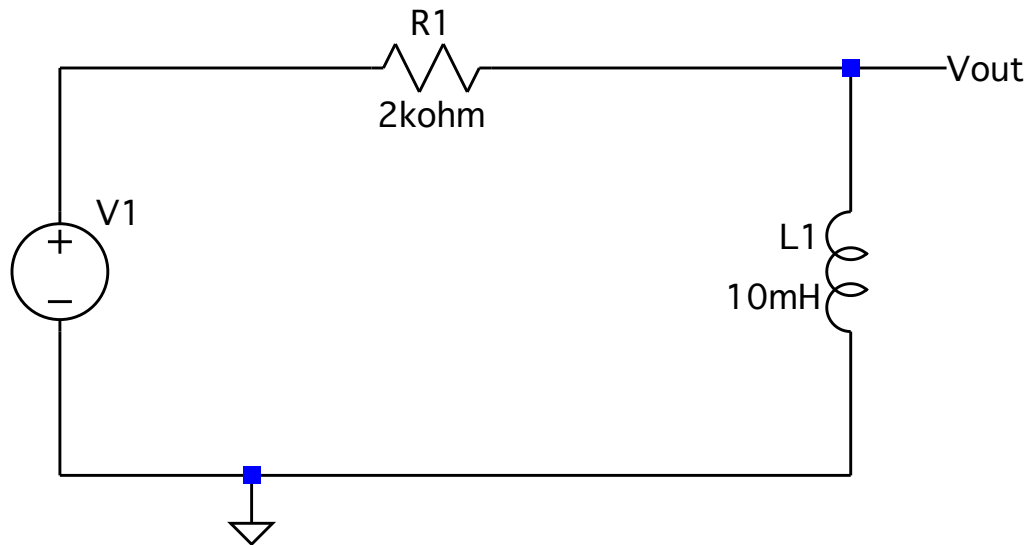

Figure 6 RL High Pass Filter Circuit
1. Construct the filter shown Figure 6. Using the same modification used in 4.3 to account for the replacement of the capacitor by the inductor and apply it to the formula given in 4.2. Then compute the half-power frequency. Include the resistance of the inductor.